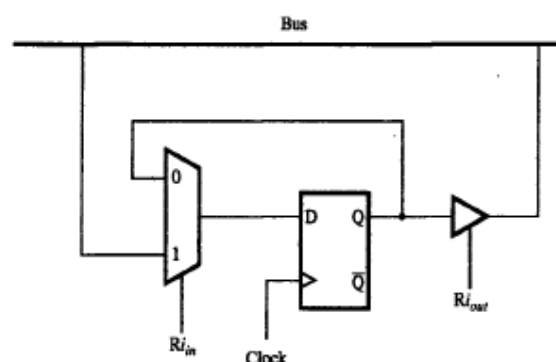

Figure 7.3 Input and output gating for one register bit.
- $R_{i\text{in}}=1$ \square mux selects data on bus. This data will be loaded into flip-flop at rising-edge of clock. $R_{i\text{in}}=0$ \square mux feeds back the value currently stored in flip-flop (Figure 7.3).